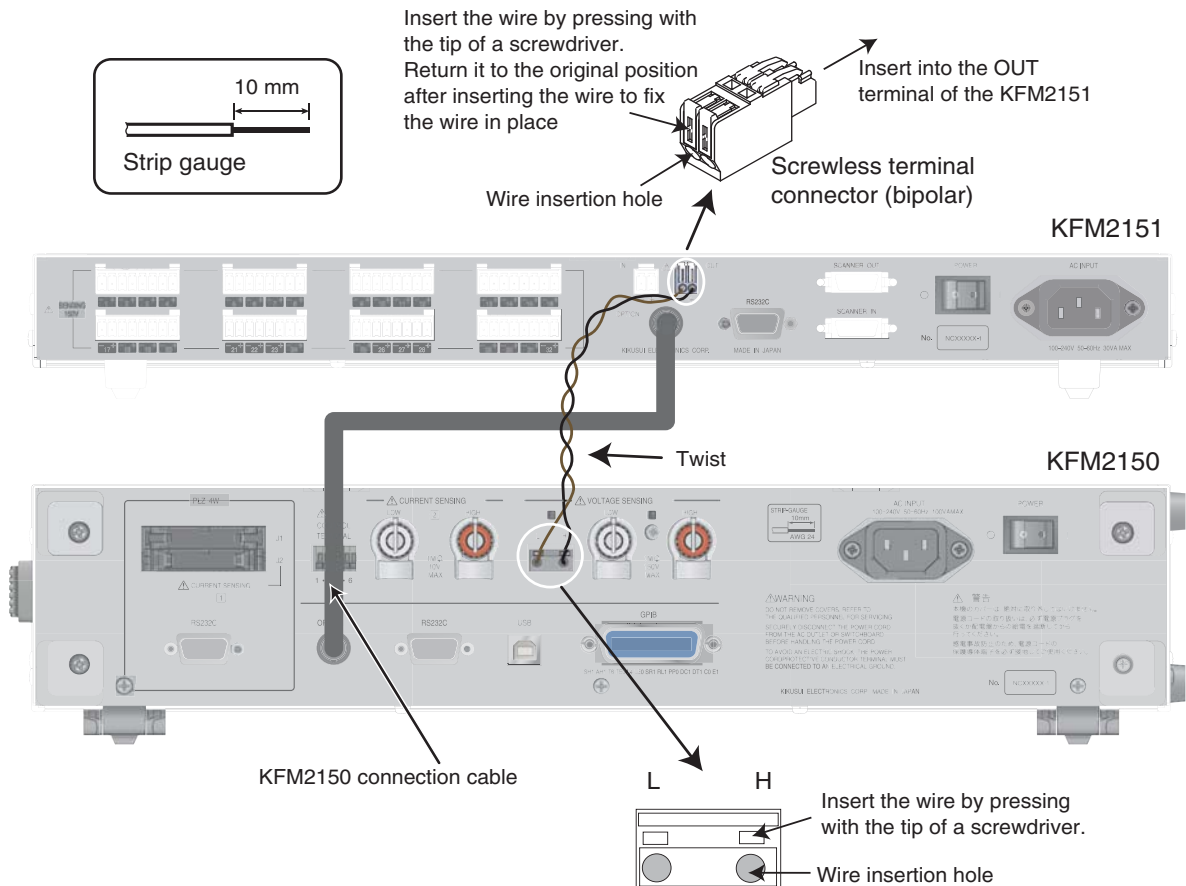

Fig.2-2 Connection of one KFM2151 to the KFM2150
Use AWG24 wires. The recommended amount of covering to be stripped is approximately 10 mm. Using the strip gauge shown in Fig.2-2 will ensure proper work.
2. Using a screwdriver, insert the wire into the screwless terminal connector (bipolar) provided as shown in Fig.2-2.
5. Connect the other end of the wires to the VOLTAGE SENSING terminal (channel 2) of the KFM2150 as shown in Fig.2-2.